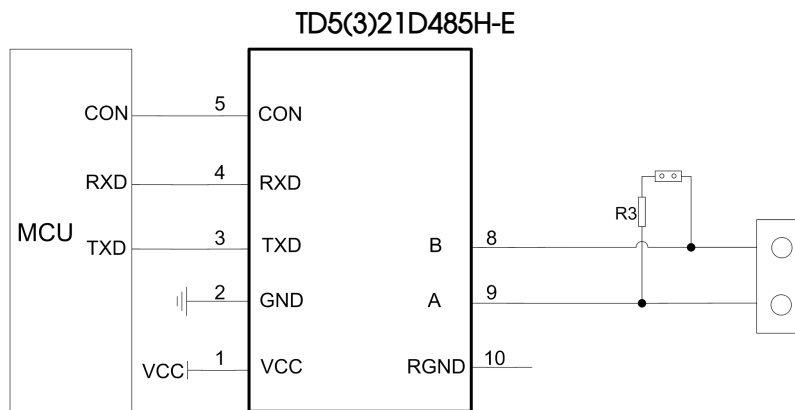

Fig.1
As shown in Figure 1, TD5 (3) 01D485H-E isolated transceiver module typical connection circuit, which TD501D485H-E module must use 5V power supply, the module TXD, RXD and CON pin interface matching level of 5V, does not support 3.3V system level, TD301D485H-E module must use 3.3V power supply, the module TXD, RXD and CON pin interface matching level of 3.3V, does not support 5V system level.
As the module internal A / B line comes with ESD protection, so users generally apply to the environment in good circumstances without additional ESD protection devices, as shown in Figure 1, the typical connection circuit. But if the application environment is relatively poor (such as high voltage power, lightning and other environments), it is recommended that users must be in the module A / B line side plus TVS tube, common mode inductors, Gas discharge tube, shielded twisted pair or the same network single point Earth and other protective measures. Therefore, the recommended application circuit shown in Figure 2, the recommended parameters as shown in the table. Recommended circuit diagram and parameter values for reference only, according to the actual situation to determine whether the need for circuit diagram of the device and the appropriate parameter values.